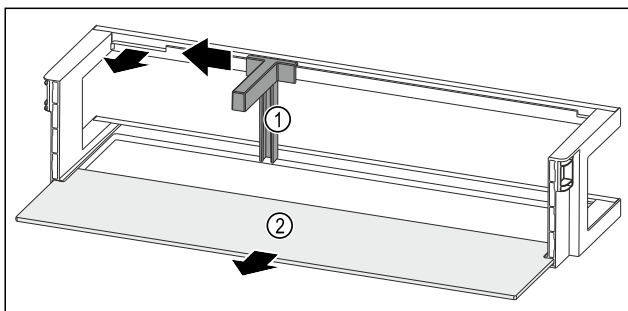

Fig. 118 Door rack with bottle holder and shelf
- ▶ Slide the bottle holder Fig. 118 (1) to the side as far as the recess.
- ▶ Remove the bottle holder Fig. 118 (1).
- ▶ Remove the shelf Fig. 118 (2).